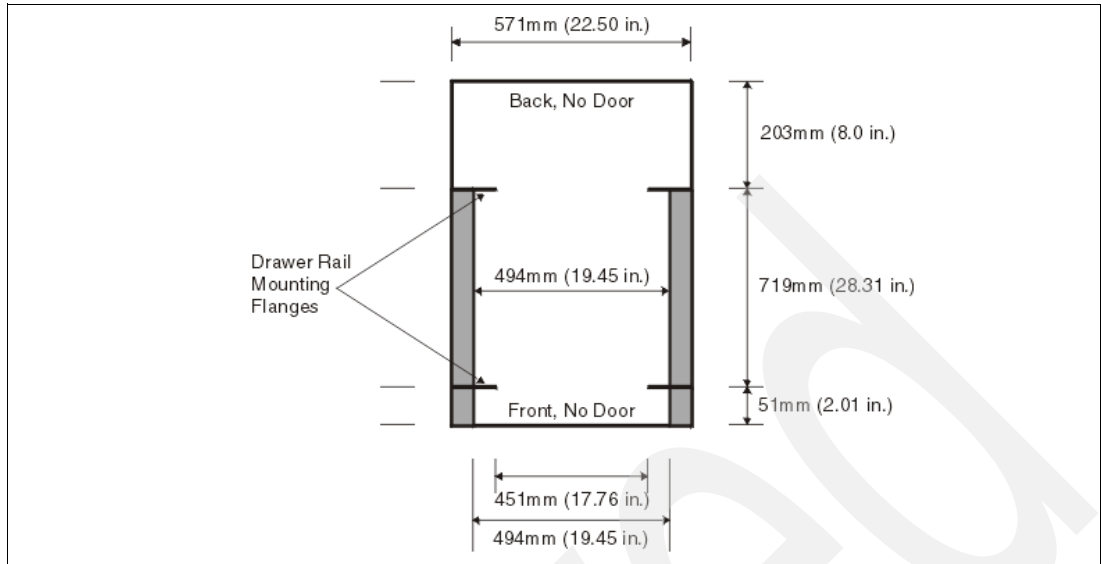

Figure 1-4 Top view of non-IBM rack specification dimensions
- ▶ The front rack opening must be 451 mm wide + 0.75 mm (17.75 in. + 0.03 in.), and the rail-mounting holes must be 465 mm + 0.8 mm (18.3 in. + 0.03 in.) apart on center (horizontal width between the vertical columns of holes on the two front-mounting flanges and on the two rear-mounting flanges). See Figure 1-4 on page 20 for a top view showing the specification dimensions.